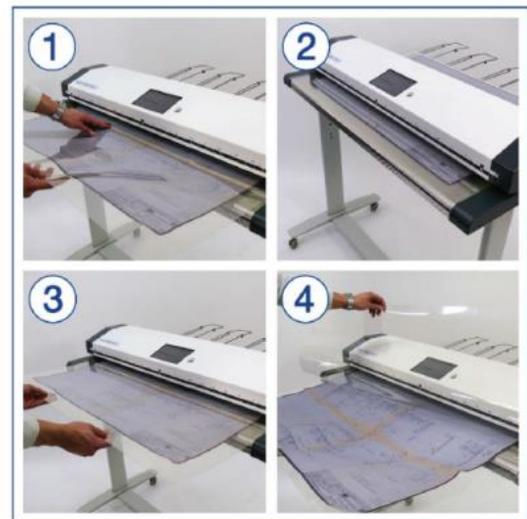

Figure 1: Handling of the transparent document carrier
- Figure 1: Handling of the transparent document carrier 4